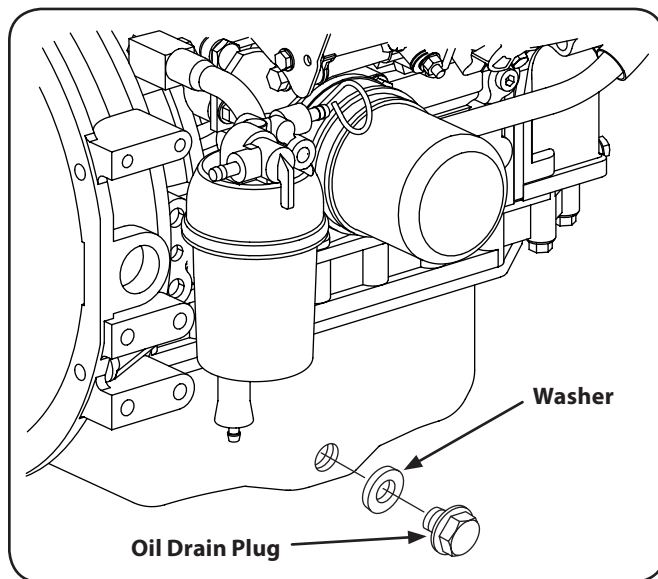

Figure 6-1
2. Locate the oil drain plug on the left lower side of the oil pan. See Fig. 6-1.